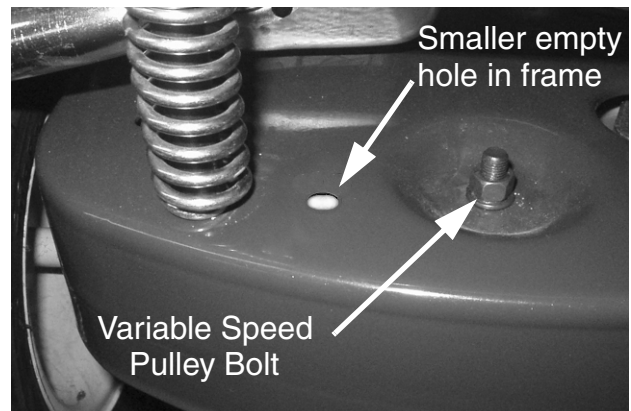

FIGURE 2
6. From the rear of the rider locate the smaller empty hole (depending on model there may be two empty holes) located just to the left of the Variable Speed Pulley bolt. See Figure 2.